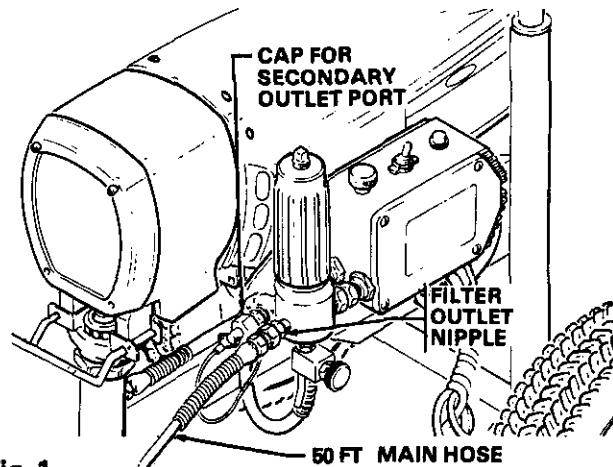

Fig 1
1. **Connect Hose and Gun (Refer to Fig 1.)**
2. **Two Gun Hookup. (Refer to Fig 1.)** Remove the cap from the 1/2 npsm(f) nipple and attach an accessory hose and gun.
- a. Close the filter's pressure relief valve. If a secondary hose and gun is not installed, be sure the cap is securely plugging the nipple. See Fig 1.